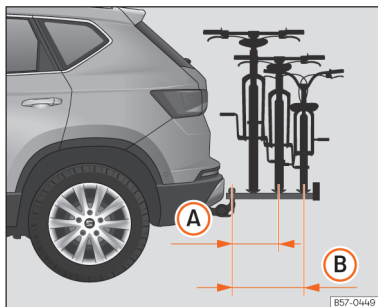

Fig. 186 Schematic representation of the maximum load overhang of a bicycle rack for two or three bicycles.
The maximum overhang shall not exceed 500 mm from the centre of the ball head to the to the centre of the rail of the last support >>> **Fig. 186 (A)** for two-bicycle racks. In the case of three-bicycle racks, the overhang must not exceed 700 mm >>> **Fig. 186 (B)**.